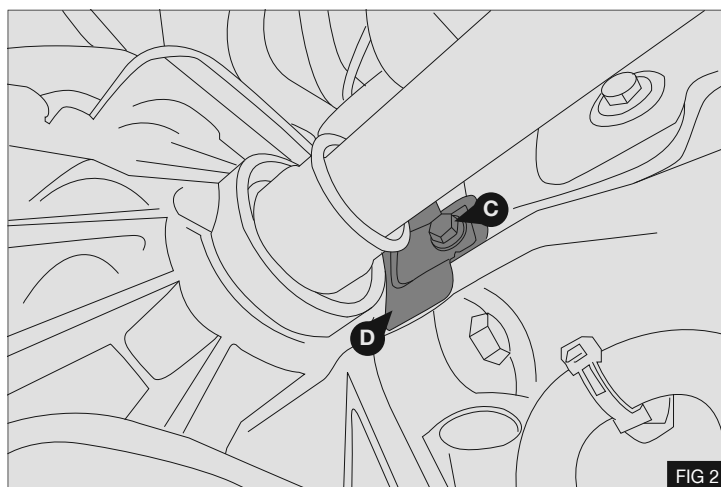

FIG 2
3. Remove and retain the M6 bolt (C) and flywheel protection plate (D) located at the rear of the engine behind the driveshaft – Fig 2